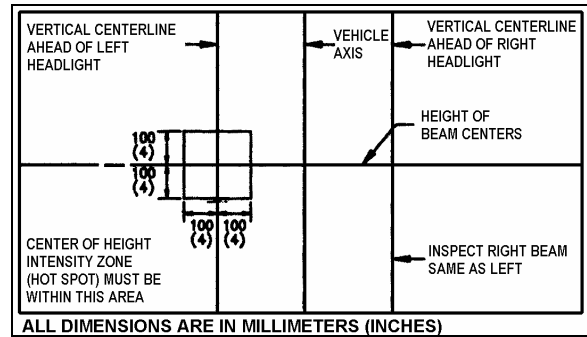

FIGURE 45: AIM INSPECTION LIMITS FOR UPPER-BEAM HEADLIGHTS 06505
7. The inspection limits for high-beam headlights shall be with the center of the high-intensity zone from 10 cm (4 inch) up to 10 cm (4 inch) down; and, from 10 cm (4 inch) left to 10 cm (4 inch) right on a screen at 7.6 m (25 ft.) (Fig. 45).